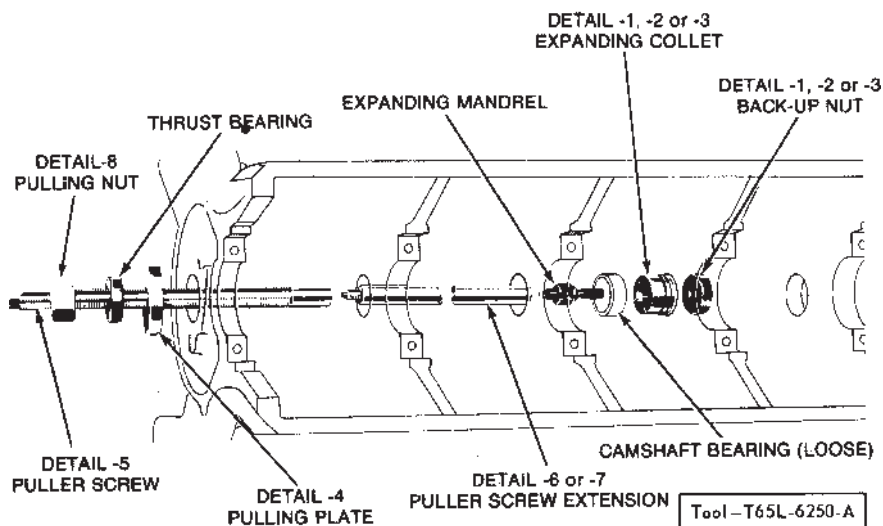

Fig. 39 Camshaft Bearing Replacement
2. Remove the camshaft rear bearing bore plug. Remove the camshaft bearings (Fig. 39).
1. Position the new bearings at the bearing bores with the oil holes aligned, and press them in place with the tool shown in Fig. 39. Be sure to center the pulling plate and puller screw to avoid damage to the bearing.